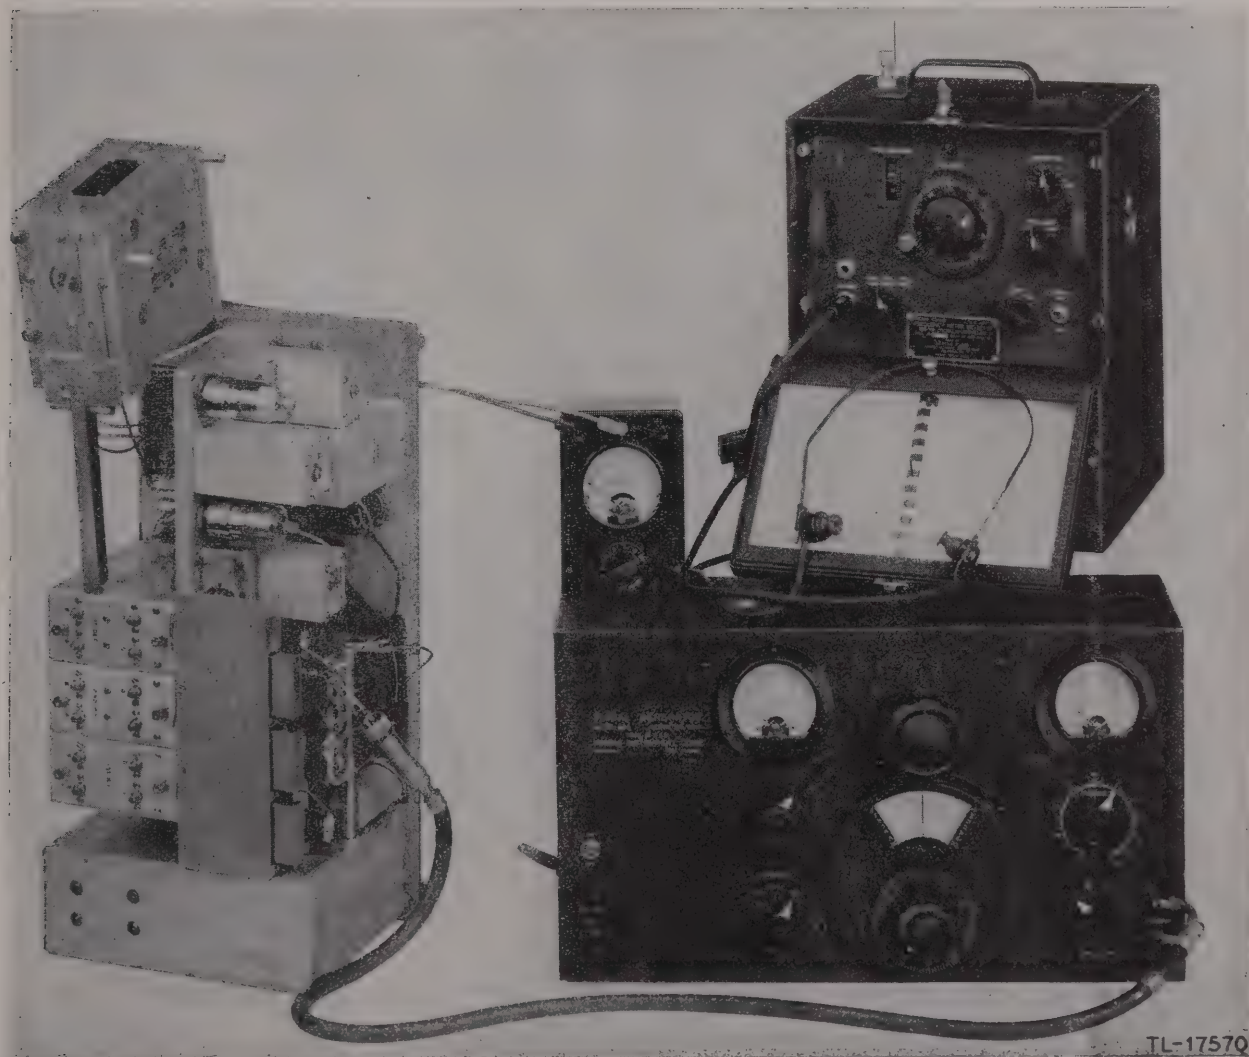
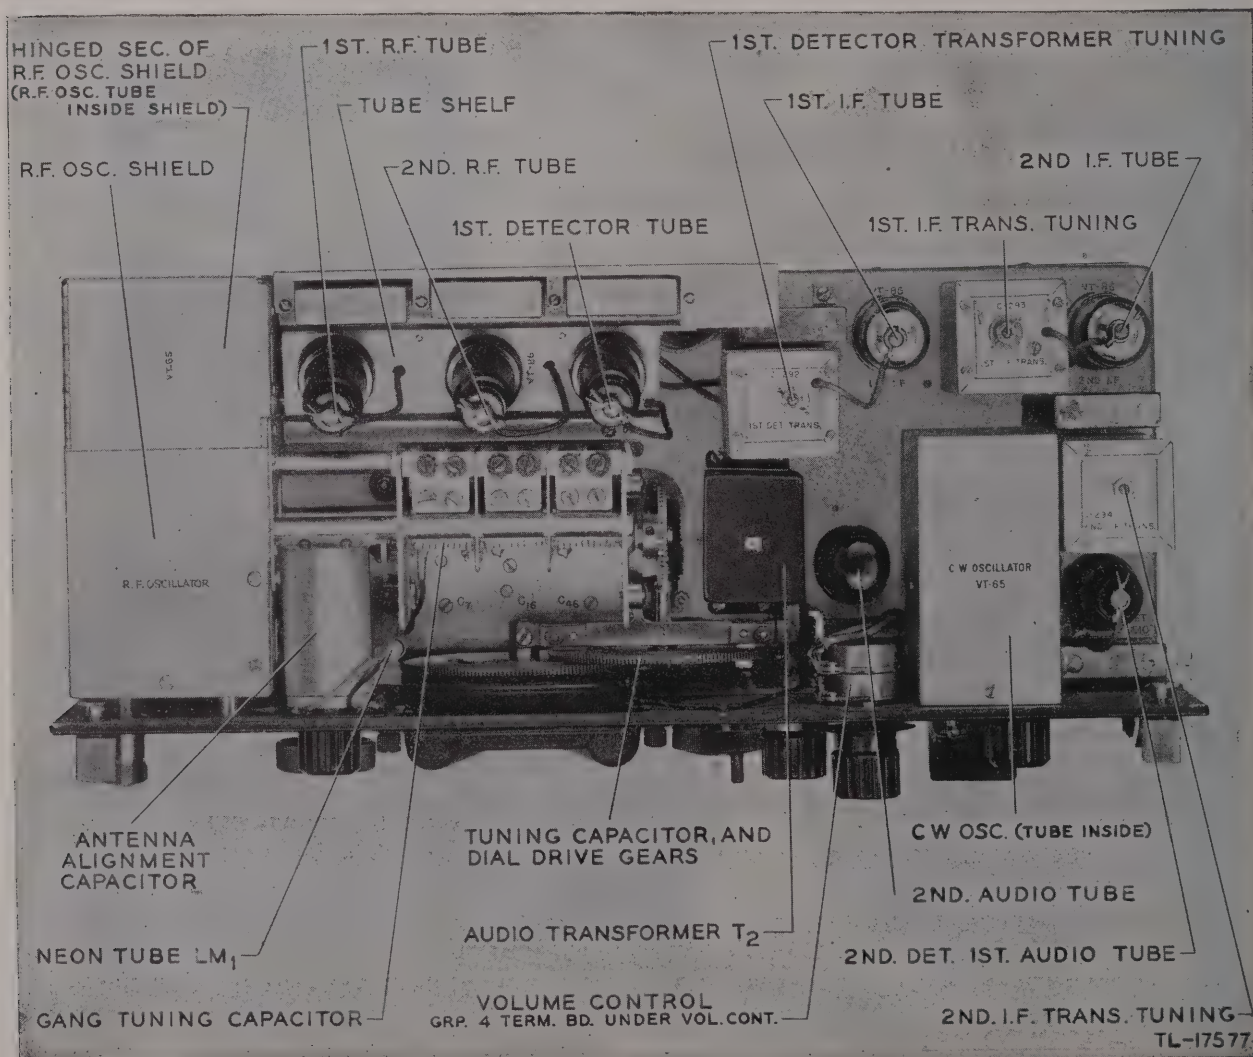

Figure 10. Radio Receiver BC-314-(*) or BC-344-(*), typical set-up for i-f alignment.
Figure 11. Receiver chassis, top view.
a. GENERAL. The rectifier can be tested and repaired without removing it from the receiver. Remove the two screws from the top of the chassis (fig. 11). Turn the receiver chassis upside down
a. PREPARATION. Set up the receiver and alignment equipment (fig. 10). Calibrate the signal gen-
erator for a 92.5-kc signal (par. 16). Remove from the top of the chassis the two screws which hold the power supply stationary (fig. 11). Remove the screw from the dynamotor or rectifier inner mounting hinge and swing the power supply upward, securing it in position with a rack or block of wood. Set the OFF-M.V.C.-A.V.C. control at M.V.C., the SELECT control at maximum, the C.W.-OSC. switch at OFF, and the VOL control at maximum. Loosen the i-f transformer screw locknuts.
b. PROCEDURE. (1) Attach the signal generator ground lead to the receiver chassis and connect the dummy antenna (300-ohm resistor) between the grid cap of the second i-f amplifier tube and the output lead from the signal generator.
(2) Connect the output meter to the PHONES 2ND AUDIO jack, and adjust the signal generator attenuator to give a small deflection on the lowest possible scale on the output meter.
(3) Adjust the second i-f transformer adjustment screws (figs. 11 and 12) located on the top and bottom of the transformer for maximum output indication.
(4) Reduce the signal generator output whenever necessary during alignment to avoid overloading the receiver.
(5) Move the dummy antenna to the grid cap of the first i-f amplifier tube; adjust the first i-f transformer adjustment screw for maximum output indication.
(6) Connect the dummy antenna to the grid cap of the first detector tube; adjust the first detector transformer adjustment screws for maximum output indication.
(7) Leaving the dummy antenna connected to the first detector tube, readjust the second i-f, first i-f, and first detector transformer adjustment screws, in the order named, for maximum output.
a. PREPARATION. Set up receiver and alignment equipment (fig. 10). Remove from the top of the chassis the two screws which hold the power supply stationary (fig. 11). Remove the screw from the dynamotor or rectifier inner mounting hinge and swing power supply upward, securing it in position with a rock or block of wood. Set the OFF-M.V.C.-A.V.C. control at M.V.C., the SELECT control at maximum, the C.W.-OSC. switch at OFF, and the VOL control at maximum. Loosen the i-f screw locknuts.
b. PROCEDURE. (1) Turn on the receiver and the frequency meter and allow 15 minutes for warming up.
(2) Set the receiver at any frequency on any band.
(3) Attach the headset to the frequency meter; insert the end of the frequency meter output lead into the r-f oscillator compartment of the receiver, so that it lies close to tuning capacitor.
(4) Tune the frequency meter to 92.5 kilocycles above the frequency at which the receiver dial is set; vary the frequency meter until zero beat is heard in the headset.
(5) When zero beat is heard, check the frequency at which the frequency meter is set. If the frequency is not 92.5 kilocycles more than the receiver dial setting, adjust the r-f oscillator adjusting screw for that particular band until zero beat is heard.
(6) Connect the signal generator lead through the 250-mmF capacitor to the receiver antenna post and connect the output meter to the PHONES 2ND AUDIO jack.
(7) Set the signal generator at the same frequency indicated by the receiver dial.
(8) Set the signal generator output for 400-cycle 30-percent modulation.
(9) Adjust each i-f adjustment screw for maximum output indication.